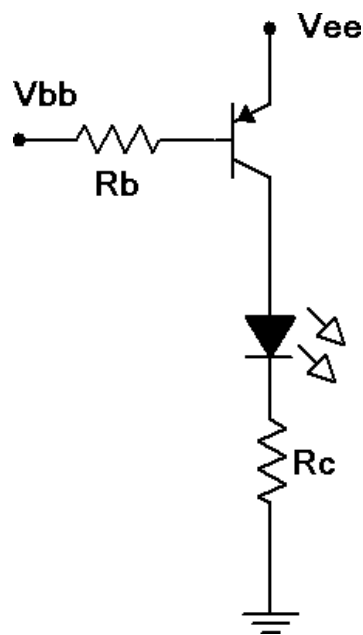

Figure 2
6. Consider the PNP saturating switch of Figure 2 using $V_{ee} = V_{bb} = 5$ volts, $R_b = 4.7\text{ k}\Omega$ and $R_c = 220\text{ }\Omega$. Calculate the base and collector currents and record them in the first row of Table 3 (Theory). As the circuit is in saturation, the theoretical VCE is close to zero and may be found on the transistor data sheet via the VCE/IC saturation graph. Record this value in the first row of Table 3 as well.
7. Build the saturating switch of Figure 2 using $V_{ee} = V_{bb} = 5$ volts, $R_b = 4.7\text{ k}\Omega$ and $R_c = 220\text{ }\Omega$. Measure and record the base and collector currents, and record the collector-emitter voltage in the first row of Table 3 (Experimental). Also compute and record the deviations between theory and experimental results.